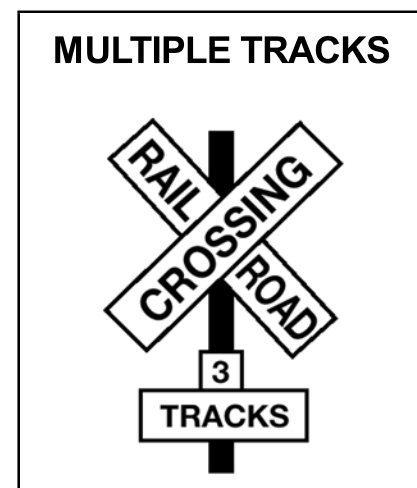

Figure 2.17
**Crossbuck Signs.** This sign marks the grade crossing. It requires you to yield the right-of-way to the train. If there is no white stop line painted on the pavement, vehicles that are required to stop must stop no closer than 15 feet or more than 50 feet from the nearest rail of the nearest track. When the road crosses over more than 1 track, a sign below the crossbuck indicates the number of tracks. See Figure 2.17.